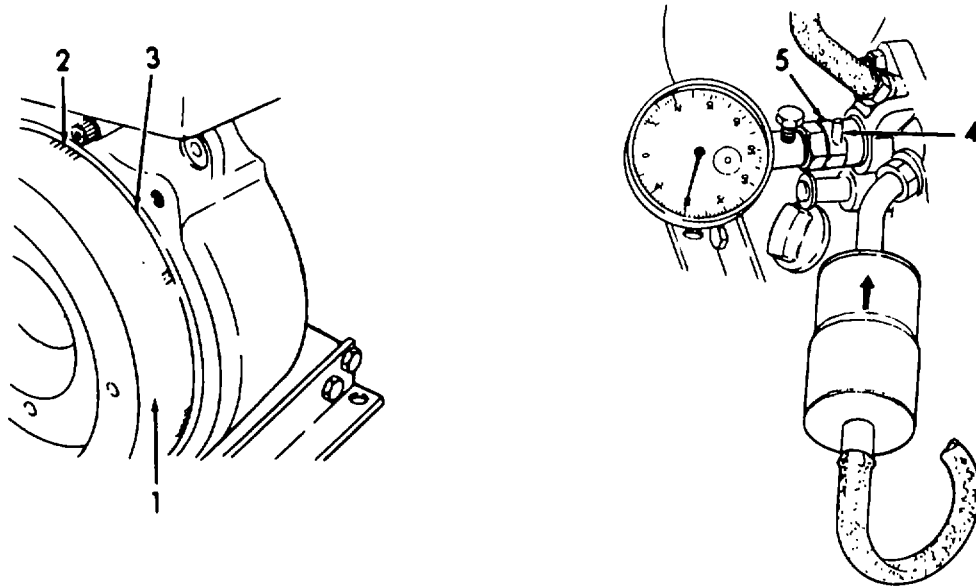

Figure 5-12. Fuel Injection Pump Delivery Lift Adjustment.
(10) Adjustment of Delivery Lift. (Refer to figures 5-12 and 5-13).
(a) Refer to figure 5-12 and with flywheel timing marks (2) (11.5 to 12.5 degrees) aligned with reference mark (3), rotate dial gauge face to zero.